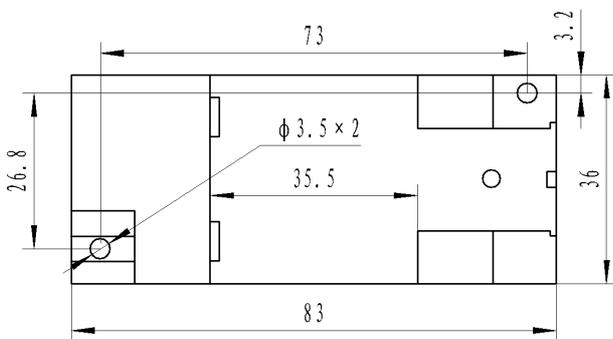

Figure 8, MS3 style installation dimension
- ③ Clip the transducer mount on the mounting rail;
- ④ Release the spring pin and clip the transmitter on the mounting rail.
① M3 screw hole in the fixed plate according to the screw hole position shown in Figure 8;
② Use the M3 screw to insert into hole and fix it.